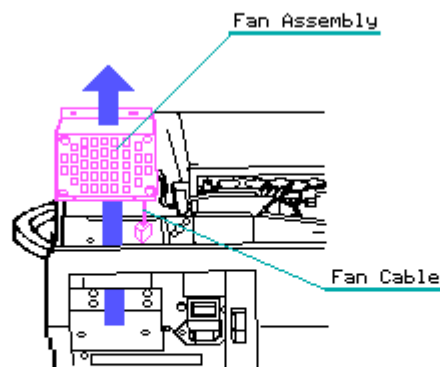

Figure 7.8-12. Removing the Fan/Bracket Assembly
5. Carefully lift the fan/bracket assembly out and away from the chassis (Figure 7.8-12). Route the fan cable through the access hole and chassis.